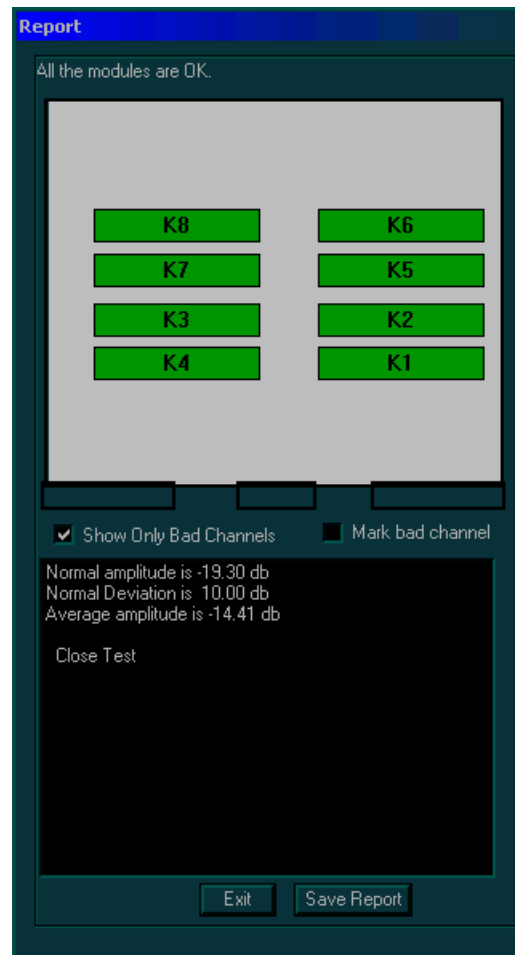

Figure 7-24 Report Dialog Box - Pencil Probe Test (Close)
6) Trackball to the **Start Close test** and press **Select**. The pencil probe test (close) is performed and the test results are displayed in the *Report* dialog box, as shown in Figure 7-24 "Report Dialog Box - Pencil Probe Test \(Close\)" on page 7-45.